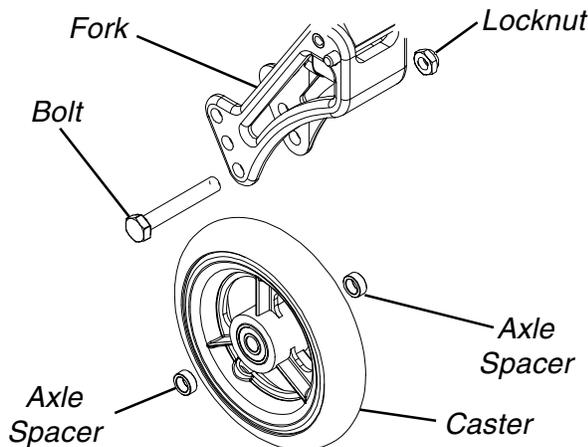

FIGURE 8 - REPLACING CASTERS
**REPLACING/ADJUSTING CASTERS (FIGURE 8)**
3. Perform one (1) of the following: